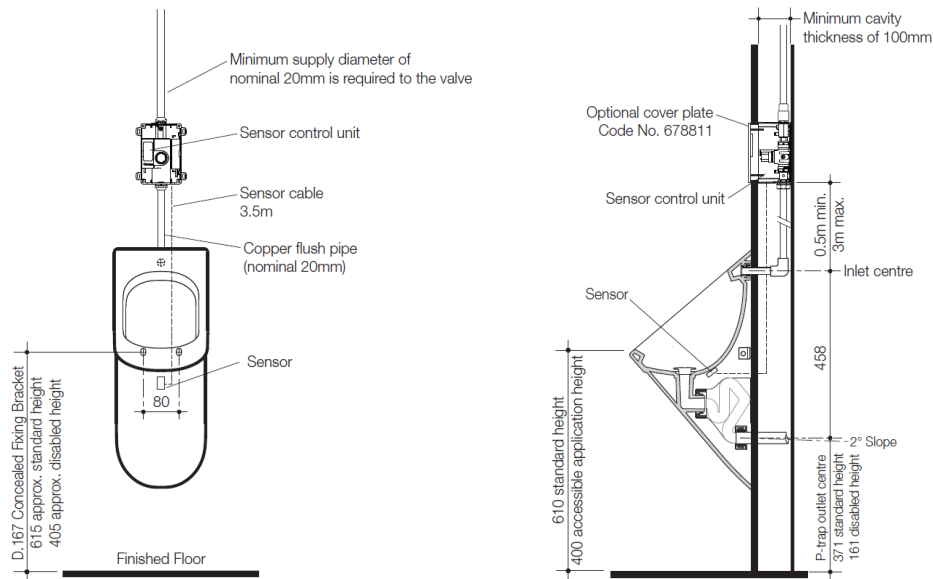

Figure: 4 Correct Inwall Installation
- Check if the flush valve is installed upright that is **vertical** as in the diagrams of the instruction manual. If the valve is on its side **horizontal** then water will spill out of the airbrake. Rectify by mounting the valve properly (See Figure 4).